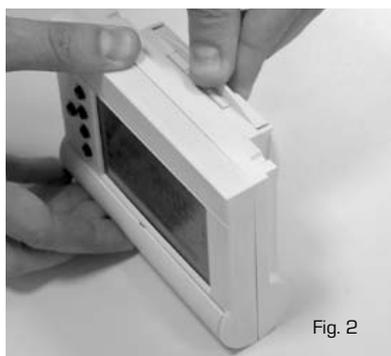

Fig. 2
- 2) Remove the adaptor from the remote control panel, by pressing with the fingers on the crescent shaped part (fig. 2).